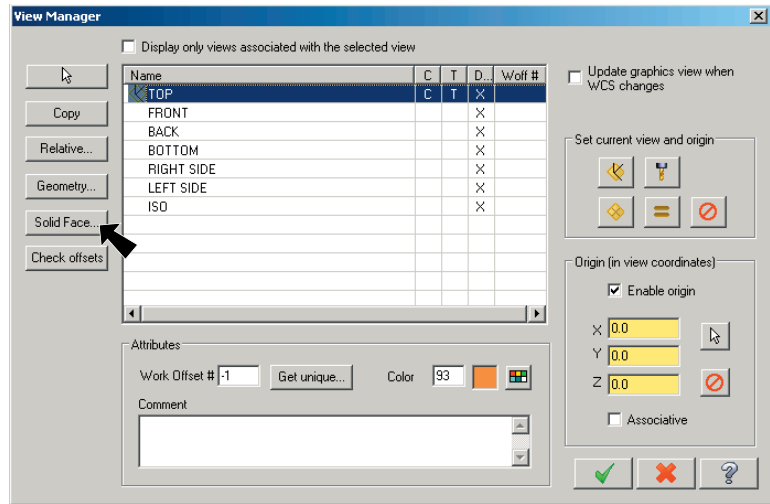

Fig. 52
Step 5. Click the **Solid Face** button in the View Manager dialog, **Fig. 52**.